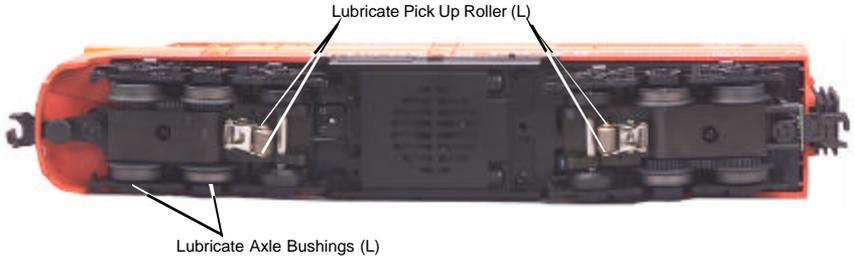
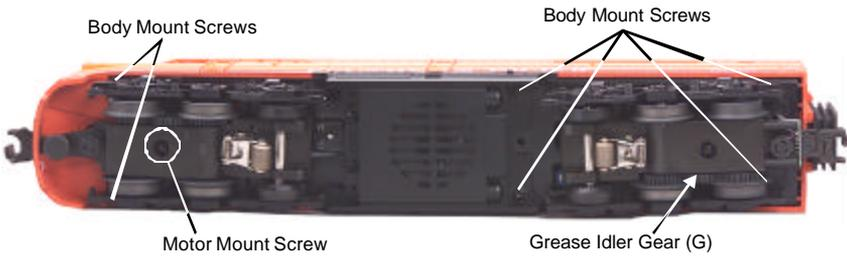

Figure 2. Lubrication Points on the Engine
Figure 3. Body Mount Screws and Greasing Points.
Although the engine was lubricated at the factory, it is important that you lubricate the chassis before operation. Lightly grease the outside idler and drive gears (marked “G” in Fig. 3 on page 9) to prevent them from squeaking. Use light household oil and follow the lubrication points marked “L” in Fig. 2 on page 8. Do not over-oil. Use only a drop or two on each pivot point.
You should regularly lubricate all outside idler gears and pickup rollers to prevent them from squeaking. Use light household oil and follow the lubrication points marked “L” in Fig. 2. Do not over oil. Use only a drop or two on each pivot point.
1. Remove the Phillips screws from the chassis, as seen in Figure 3, then lift the body away from the chassis.
2. Remove the truck blocks from the chassis by unscrewing the black Phillips motor mount screw on the bottom of each truck block, as shown in Figure 3 .
It is also a good idea to lubricate the outside truck block idler and drive gears with grease occasionally. Add grease to the points marked with "G" in Figure 3.